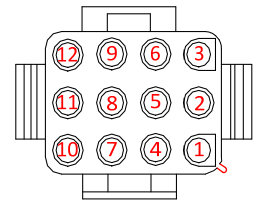

Figure 65
64. Using a pin pusher, push pins 1 (black) and 2 (red) out of the new 12-pin connector on the 8076105 harness and discard (see Figures 65 and 66). Pin 1 is located
72. Insert the two black wires removed from the 2-pin connector in the previous step into positions 3 and 4 of the 12-pin connector in step 68 (see Figures 65 and 74).